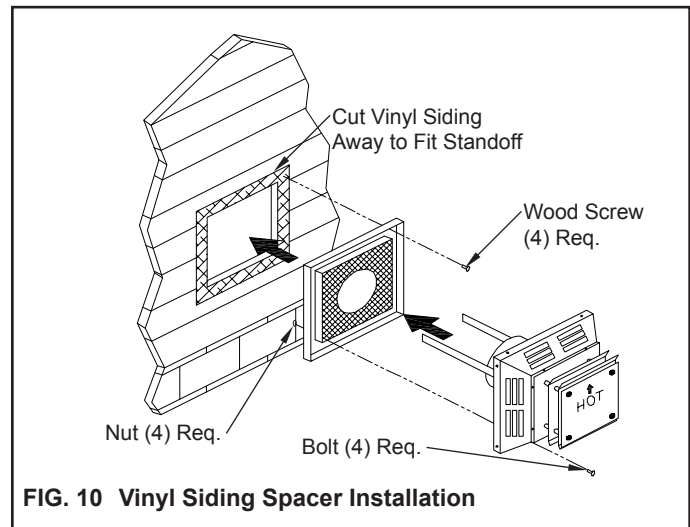

FIG. 10 Vinyl Siding Spacer Installation
For buildings with vinyl siding, a Vinyl Siding Spacer (DVS) should be installed between the vent cap and the exterior wall. (See FIG. 10). Attach the Vinyl Siding Spacer to the Horizontal Termination. The Vinyl Siding Spacer prevents excessive heat from melting the vinyl siding material. Orientate the Vinyl Siding Spacer such that the Horizontal Termination slips over and is then attached to the inner shaded area of the Spacer as shown using four (4) bolts and nuts.